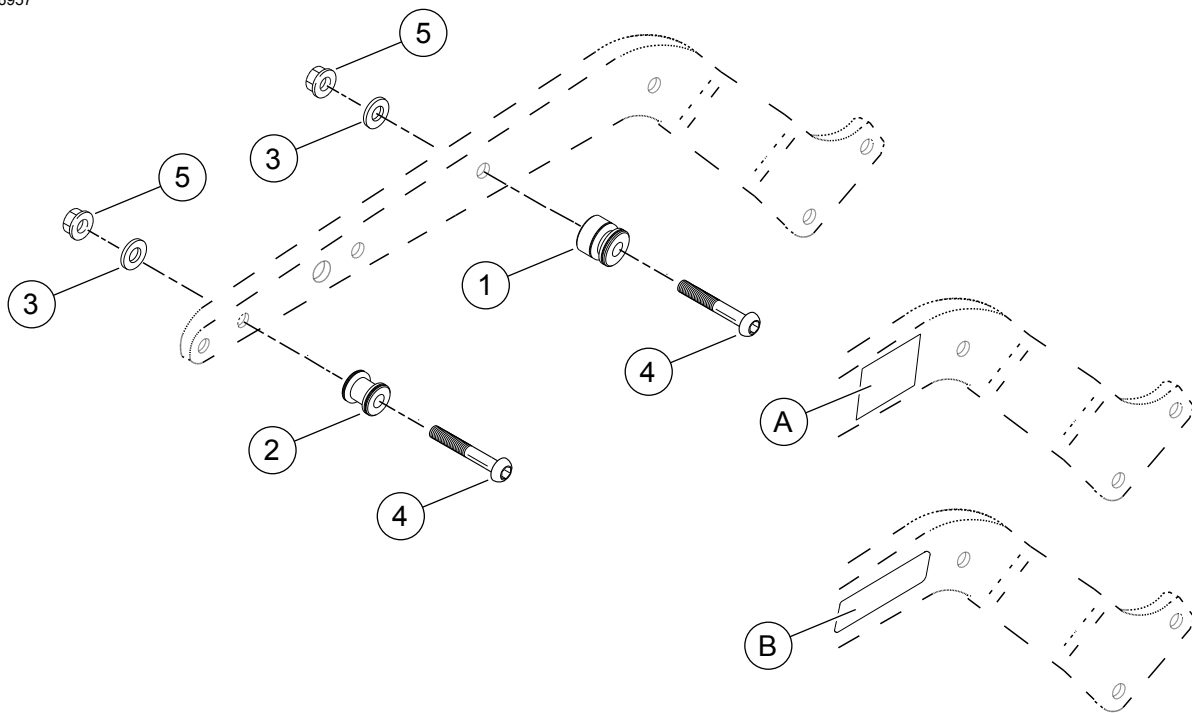

Figure 1. Service Parts: Softail Docking Hardware Without Saddlebag Supports
See Figure 1 and Table 1.
2. See Figure 1. Remove the original bolts and acorn nuts from the two fender support bracket docking point locations as shown. Discard the bolts and acorn nuts.
3. Install the front docking point (1) and rear docking point (2) as shown. Insert the bolt (4) through the docking point and into the fender, then install the washer (3) and locknut (5) on the inside of the fender. Torque the bolts (4) to 37 N-m (27 ft-lbs).
5. See Figure 1. Reattach the reflector to the forward part of the fender support bracket with the double sided adhesive tape included in this kit. Trim the tape to match the shape of the reflector.